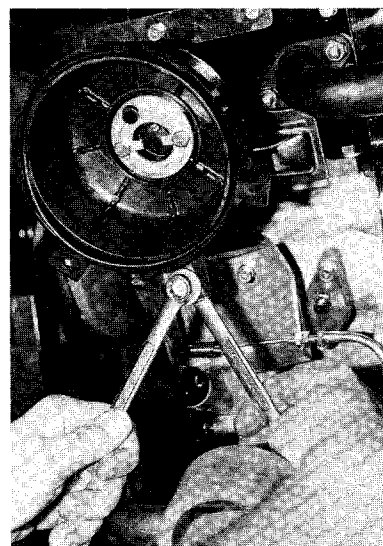

Figure 7-7
4. Remove bolt from air filter housing brace (Figure 7-7).